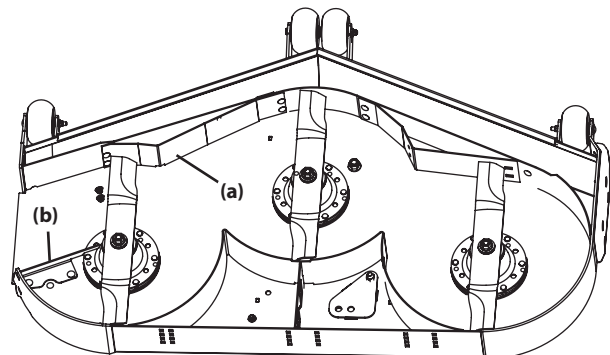

Figure 15
**Inner Baffle:** The inner baffle (a) regulates grass discharge. Remove the inner baffle for high-volume grass and install the inner baffle for precision cutting. See Figure 15.
**Discharge Baffle:** The discharge baffle (b) enhances the grass discharge pattern. The discharge baffle reduces clumping and should be removed for mulching. See Figure 15.